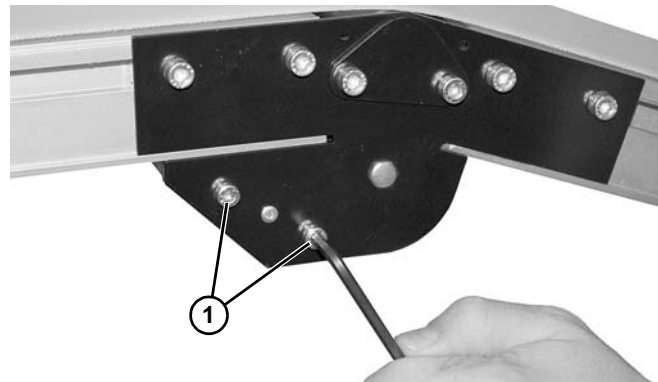

Figure 74
3. Install screws (**Figure 74, item 1**) on both sides of conveyor.